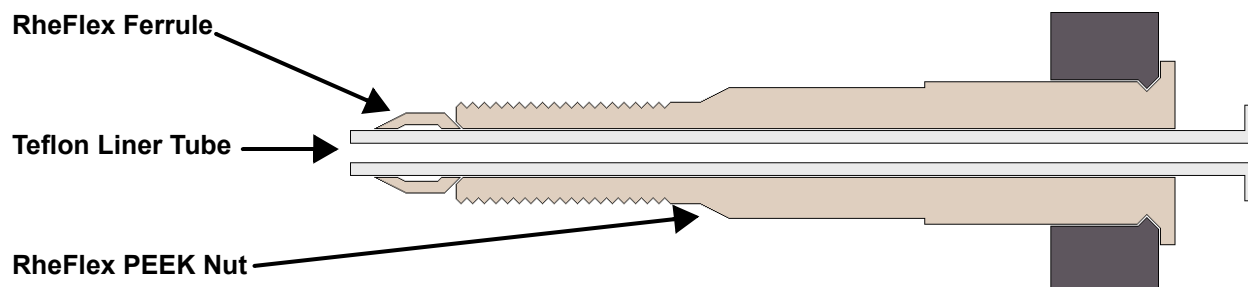

Figure 5-5. Needle port fitting, P/N 00110-22030
- a. Insert the liner tube, RheFlex® ferrule, and the threaded portion of the RheFlex nut (see Figure 5-5) into port 5 of the divert/inject valve.